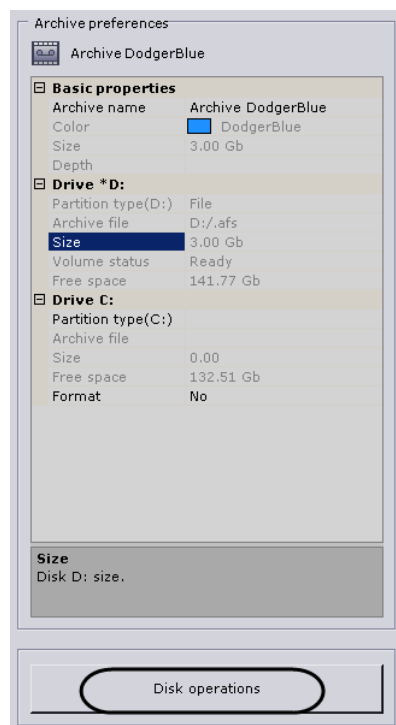

Fig. 6.6—4 Launching the disk management utility
- 4.4. If you select a **Disk** partition, you must first manually delete the file system on the selected disk using the standard Windows OS *Disk management* utility and then repeat the archive creation procedure. To start this utility, click the **Disk operations** button (Fig. 6.6—4).